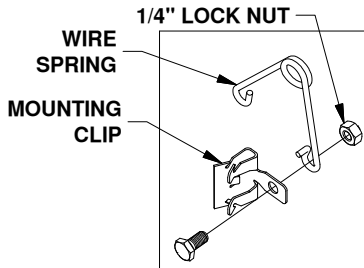
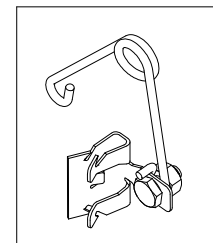

Figure D1: Leveling kit parts.
Figure D2: Assembled leveling kit.
- Locate the 1/4" cap screw and nut, along with the wire tension spring and mounting clip. Pass the 1/4" cap screw through the mounting clip and the wire spring, as shown in Figure D1. Thread the 1/4" lock nut onto the 1/4" cap screw. Tighten the lock nut just enough that the spring will stay in place but will still be able to rotate around the bolt if needed, see Figure D2.